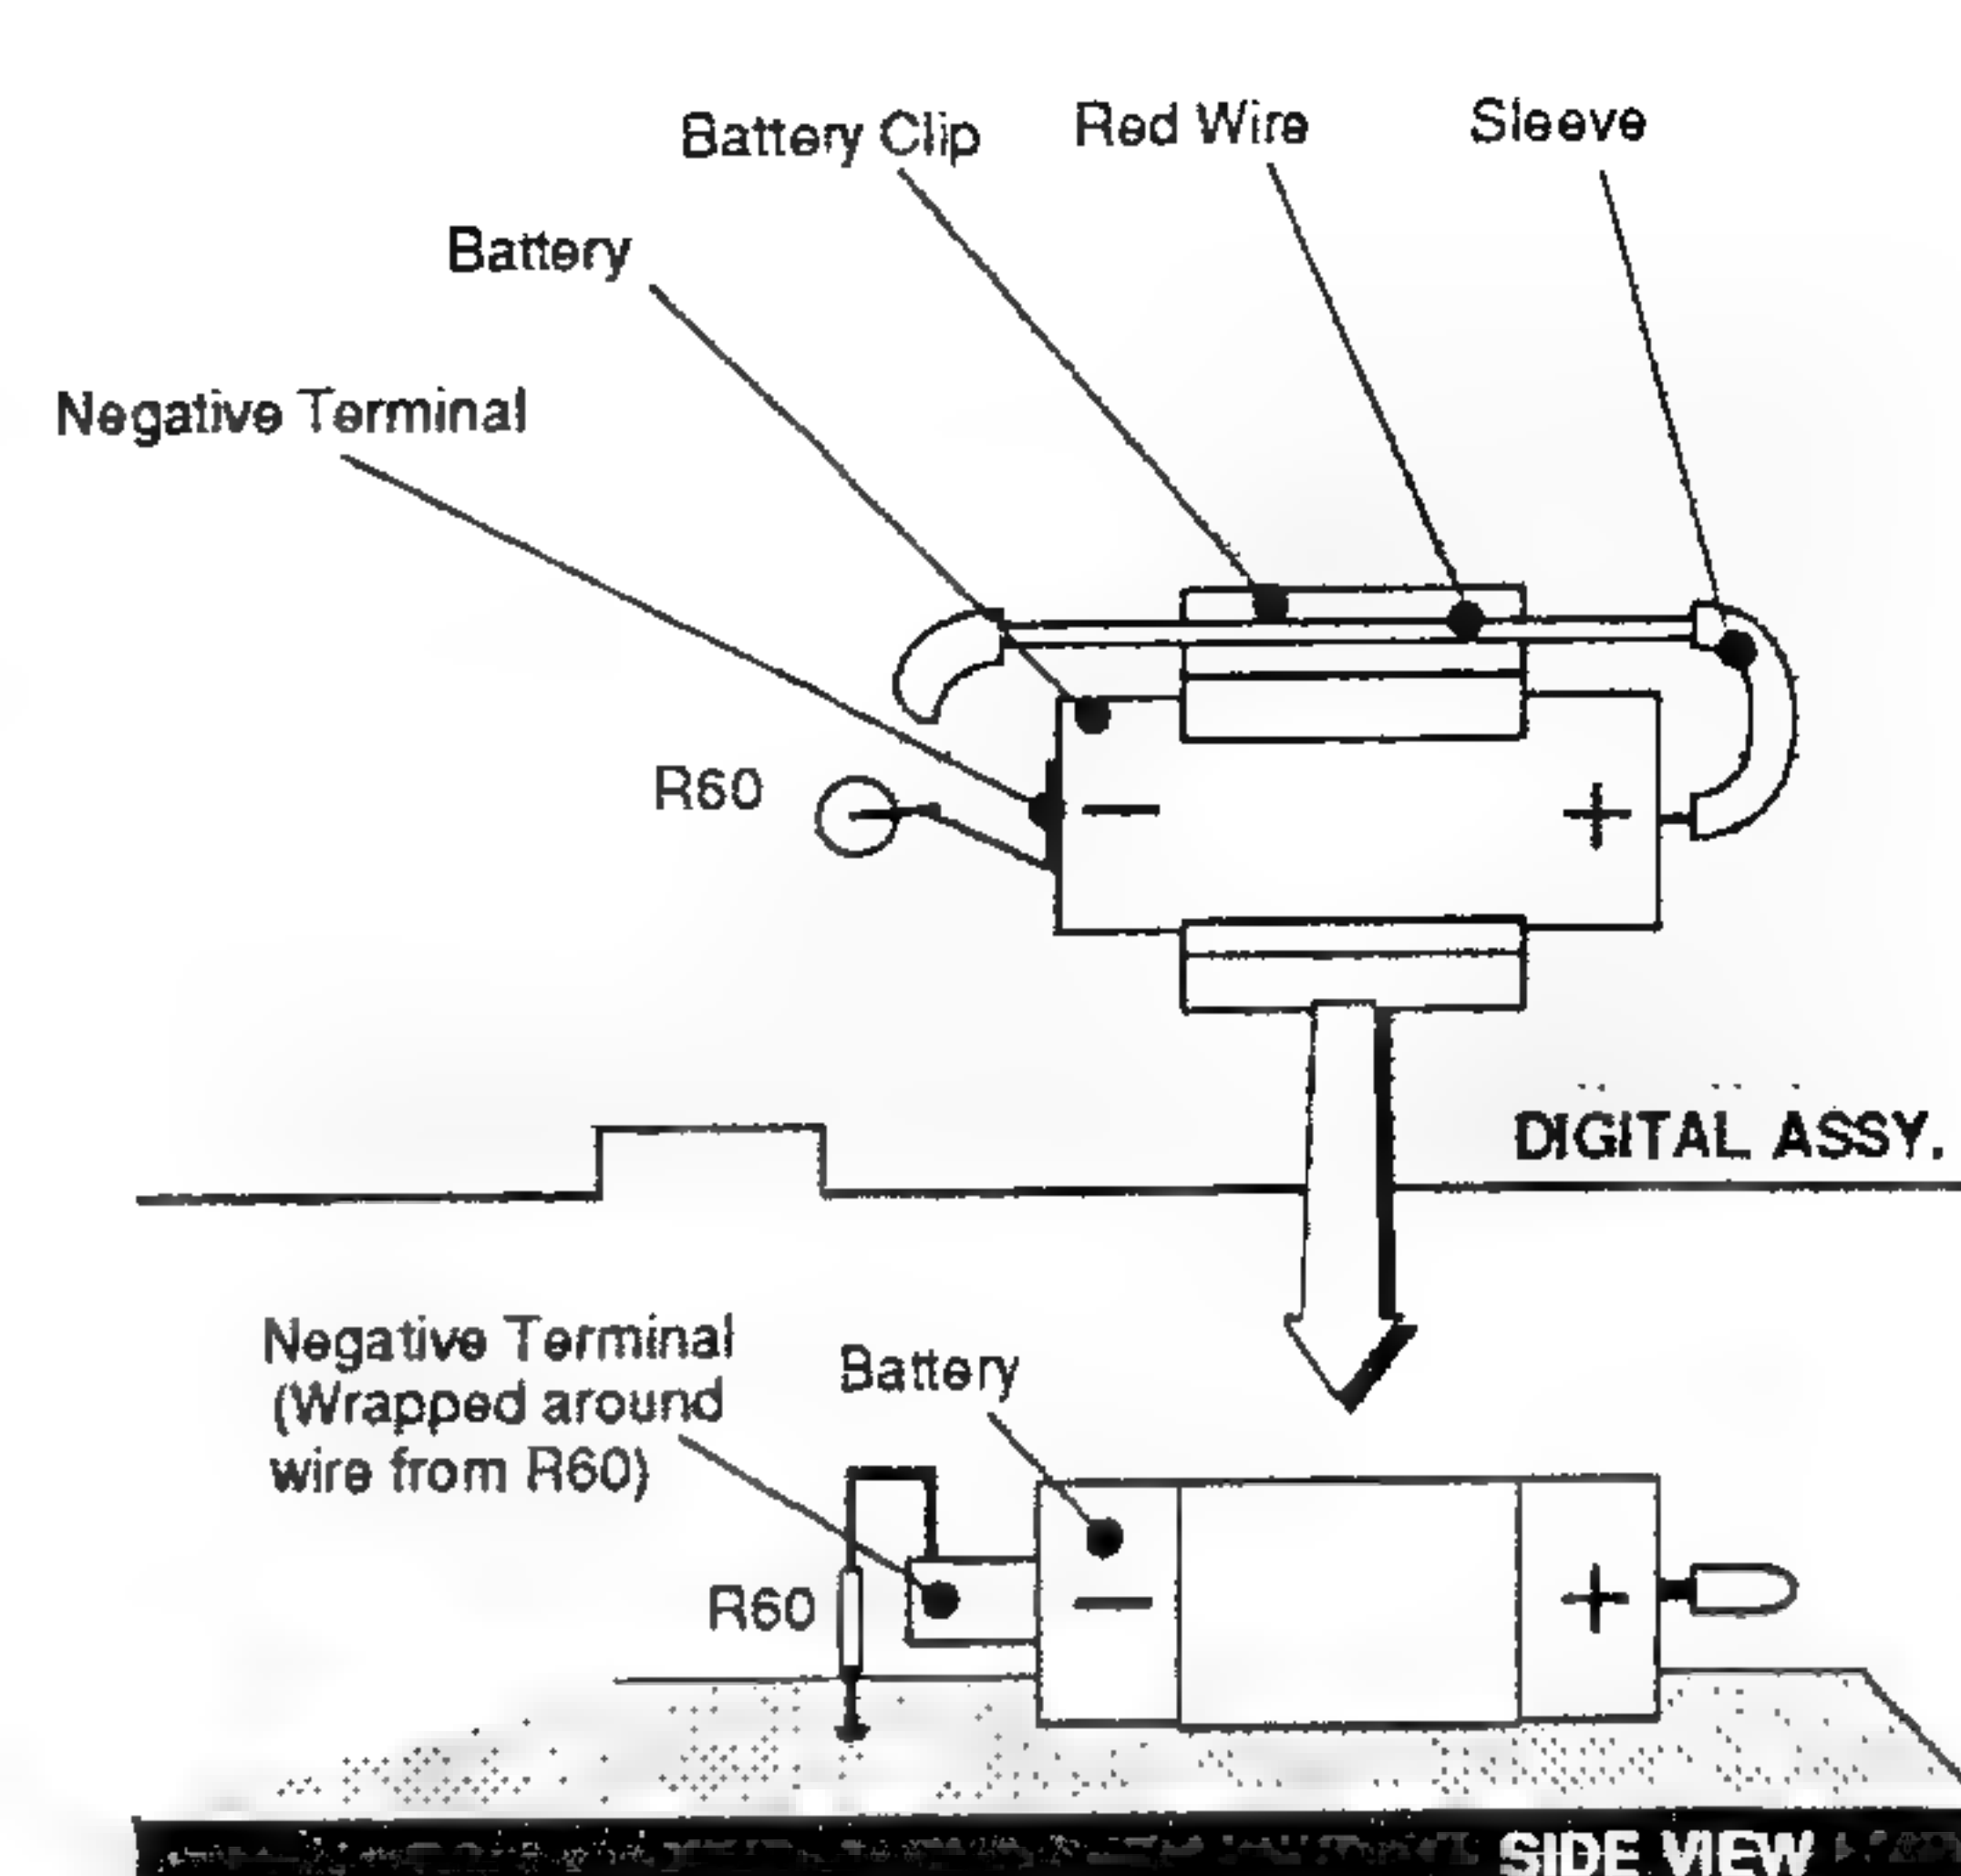

FIG. 4.1 BATTERY REPLACEMENT
- f. Remove battery (refer to *Fig. 4.1*).